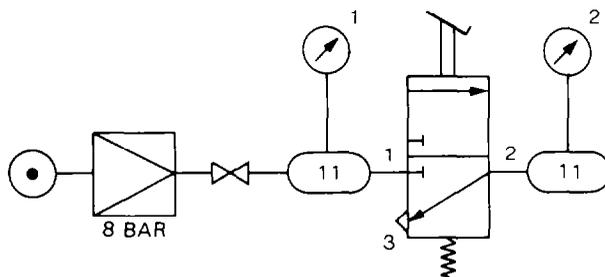

Figure 101 Test Connections
- a. Connect the valve to a pressure source via an 8.0 bar pressure limiter; connect a stopcock and two pressure gauges as shown in Fig 101.